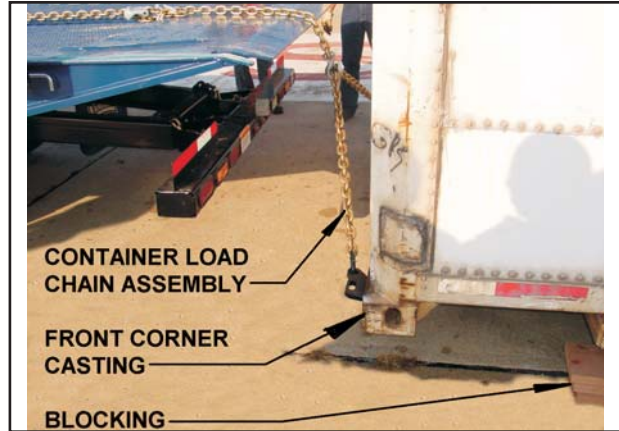

Figure 3-4 Front Corner Castings
- 3-11.1** Practice all standard industrial safety standards (See Figure 3-4). Do not load any payload that will overload any component of the semitrailer or cause any unsafe condition.
- 3-11.3** Park the tractor/semitrailer in a straight line on level even surface. Set the tractor brakes and release the semitrailer brakes (See Figure 3-4).
- 3-11.15 Check the container to be loaded to see if the container front corner castings are an inch or so off the ground. If they are not, the container will have to be lifted first and blocks placed a few inches behind front of container to keep container an inch or so off the ground (**See Figure 3-4**).